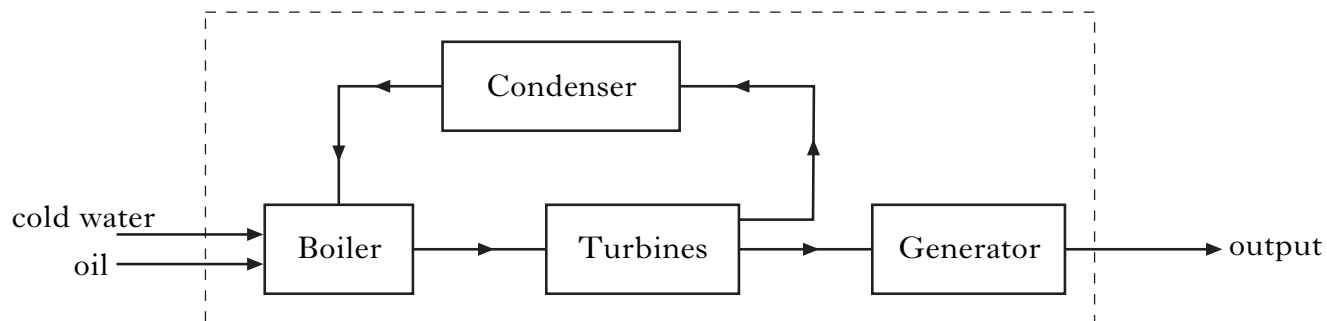

Figure Q1
1. Figure Q1 shows a simplified sub-system diagram of an oil-fired power station.